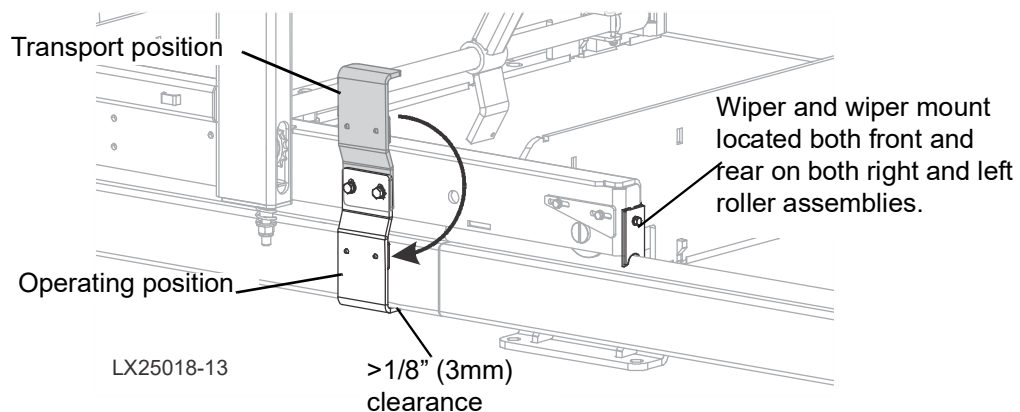

FIG. 3-14
4. Remount the mast safety assemblies (right and left) from the transport position to the operating position. See Figure 3-14.
See Figure 3-14.